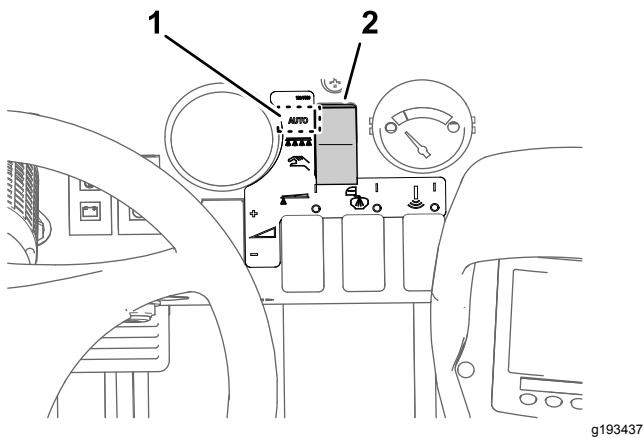

Figure 35
3. Set the sprayer mode button to the Application Rate Mode (Figure 35).